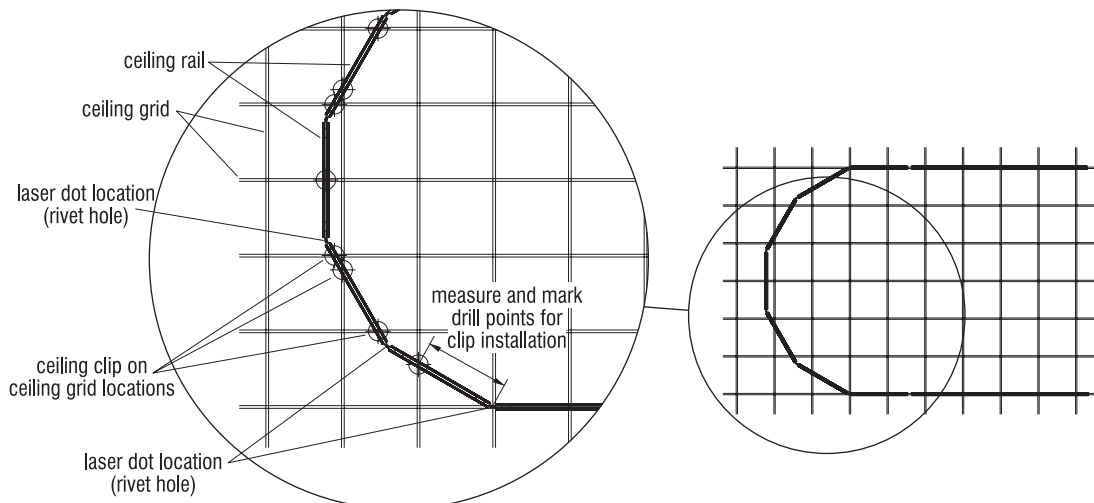

Figure 5 - Ceiling Grid/Rail Clip Locations
7. Using a line laser or straight edge, connect the marks on the ceiling and mark where the line crosses the center of the ceiling grid (Figure 5).
9. Holes must be drilled into the ceiling rail so the rail may be installed onto the ceiling clips. To do this, first measure from where the laser dot on the ceiling was to the center of the ceiling clip (Figure 5).
10. Transfer this dimension to the ceiling rail assembly by measuring from the center of the rivet to where a hole will need to be drilled for the ceiling clip (Figure 5).